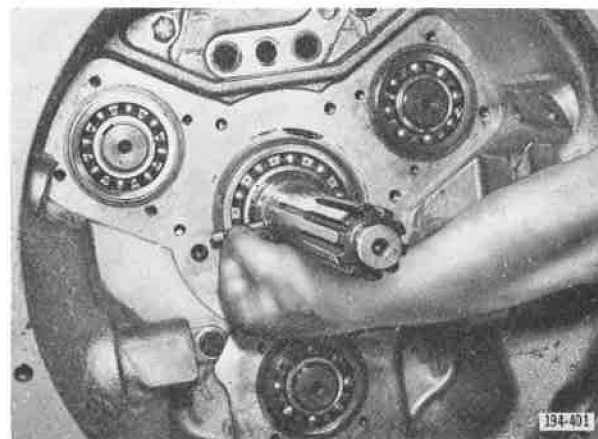

Figure 5-631. Installing Oil Pump Vane
5. Install oil pump vane in pinion. See Figure 5-631. Vane should be flush with the right hand side of the pinion shaft and protruding slightly from the left side (as observed from the front of the transmission). This will insure alignment of vane with eccentric bore in cover during assembly.